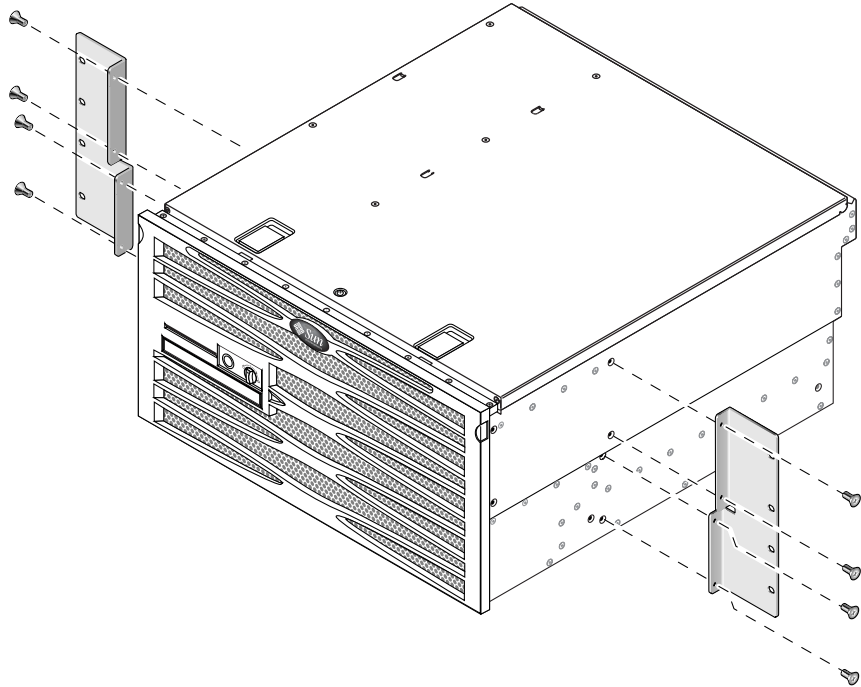

FIGURE 3-24 Securing the Side Brackets to the Side of the Server
2. Using eight of the M5 × 8 mm panhead Phillips screws (four for each side bracket), secure the side brackets to the sides of the server (FIGURE 3-24).